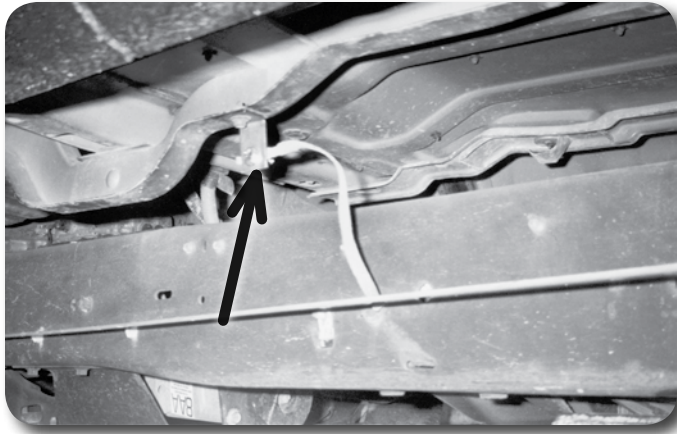

Figure 5
13. Attach the ground straps to relocation brackets using 1/4" x 1" bolts, 1/4" SAE washers, and nuts **Figure 5**.